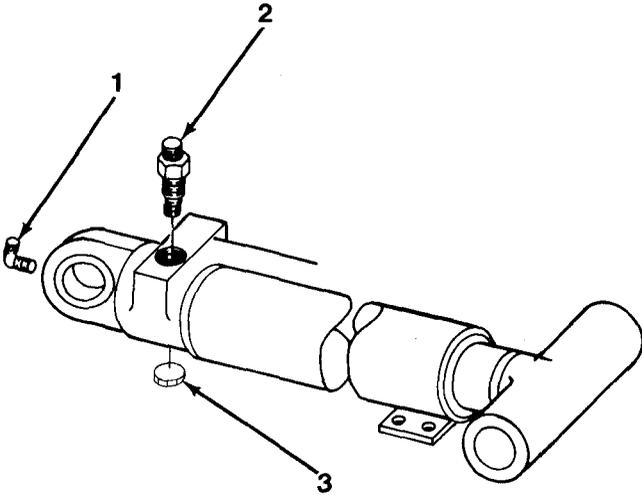

Figure 13-1
14. Install plug (3) and counterbalance valve (2, Figure 13-1).
15. Install grease zerk (1).